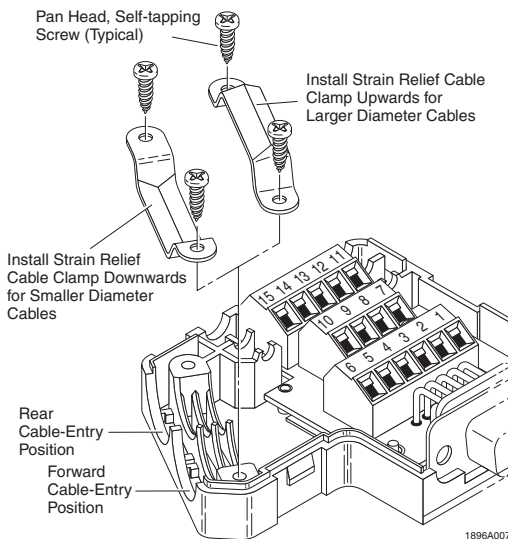

Figure 6. Strain Relief/Ground Clamp Orientation
The SUBCON 15 high-density connector is shipped with the cable strain relief/ground clamp installed. See Figure 6. The clamp can be removed to install cable.
As shown in Figure 6, the strain-relief/ground-clamp can be installed two ways. One way for large diameter cables and another way for smaller diameter cables.
7. Determine the best ground clamp orientation for the cable diameter being used. Refer to Figure 6. Then install the strain-relief/ground clamp.
7. Determine the best ground clamp orientation for the cable diameter being used. Refer to Figure 6.